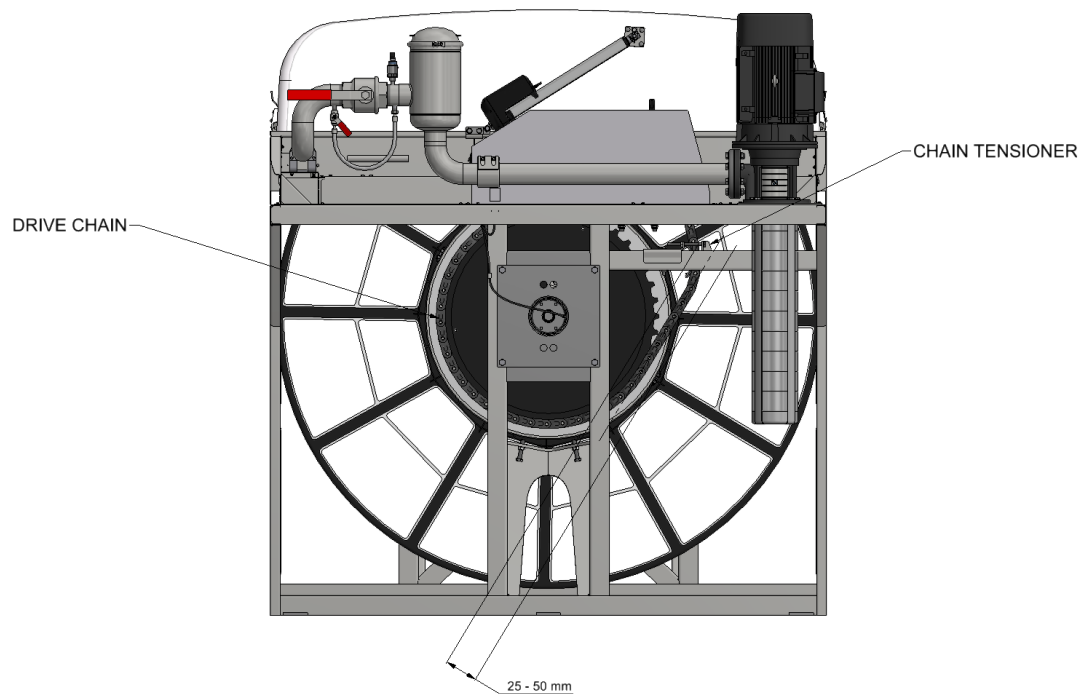

Figure 7.21 Displaying the correct slack of the drive chain and position of the tensioner.
1. Turn the main power switch to the OFF (0) position and lock with a padlock.
4. Check the tension of the chain's return section; it must be possible to move it between 25 and 50 mm, see Figure 7.21.